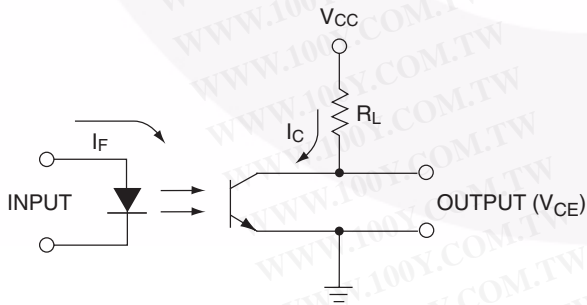

Figure 10. Switching Time Test Circuit
3. For test circuit setup and waveforms, refer to Figures 10 and 11.